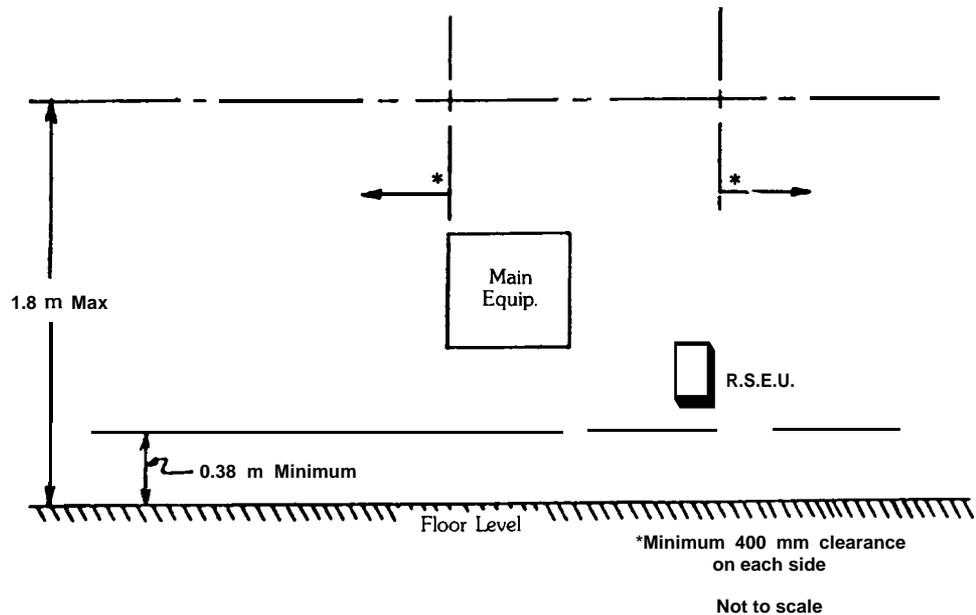

Figure 2.1 Mounting Positions
- (f) Wall mounted equipment should be mounted between .38 m and 1.8 m from floor level (refer Figure 2.1). The final position must be mutually acceptable to both the customer and the installation guidelines as stated here.